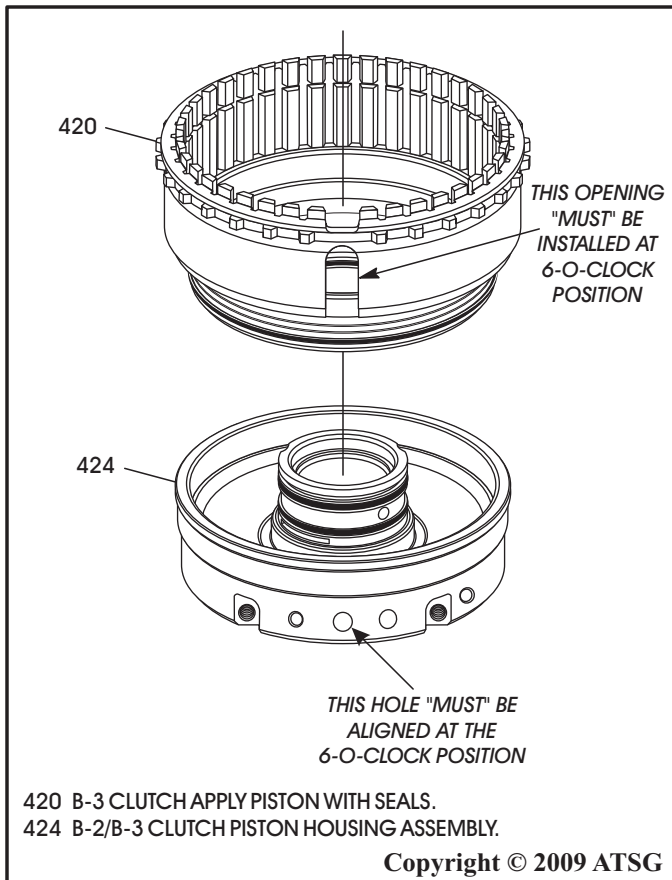

Figure 159
16. Place B-2/B-3 clutch piston housing assembly on a flat work surface with the hole shown in Figure 159 at **exactly** the 6-O'clock position.
17. Install B-3 clutch apply piston with opening at **exactly** the 6-O'clock position, as shown in Figure 159.